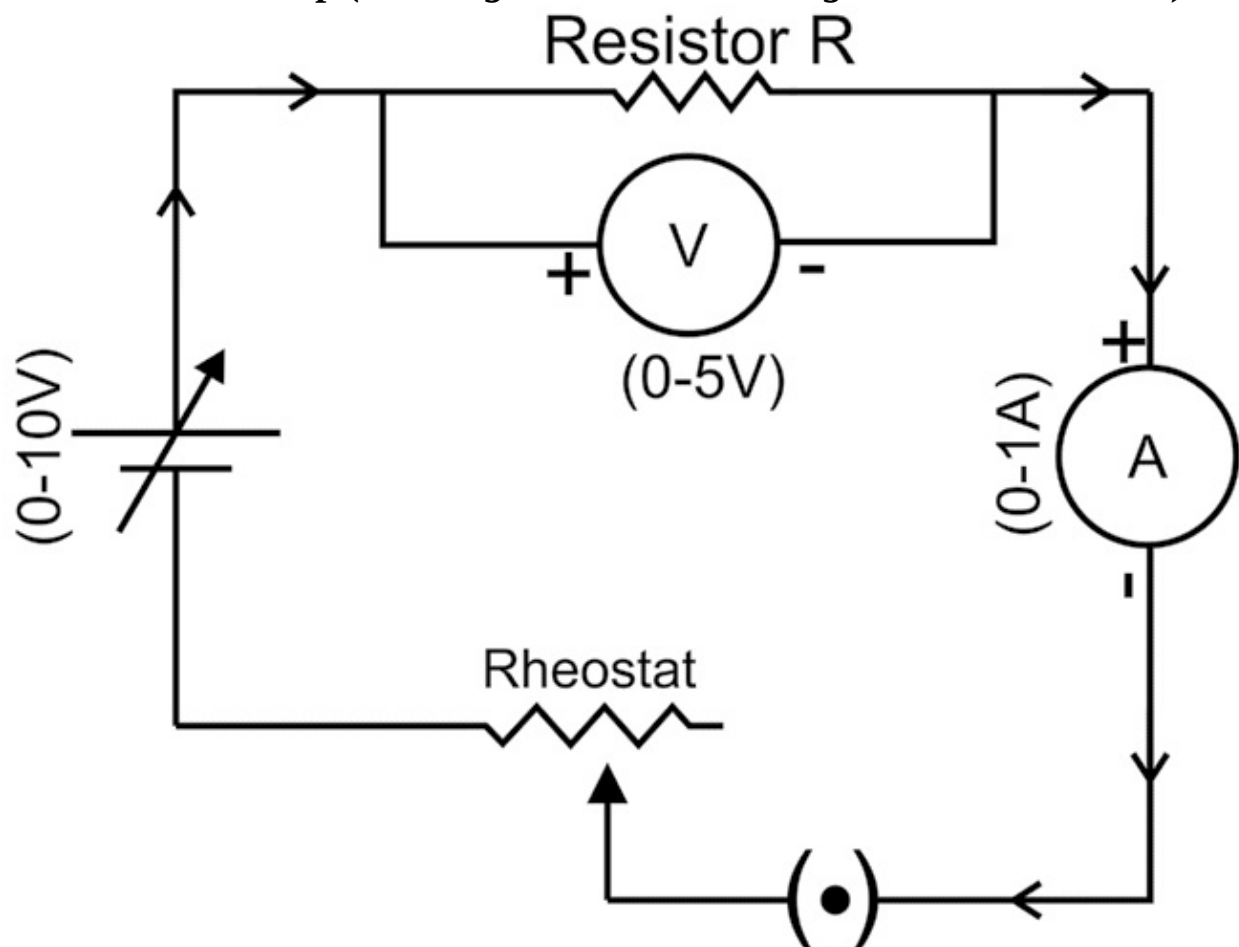

Fig P6.1
1. Make connections as per circuit diagram in Fig. P6.1.
9. Plot the graph between electric current (I) along X-axis and voltage (V) along Y-axis.